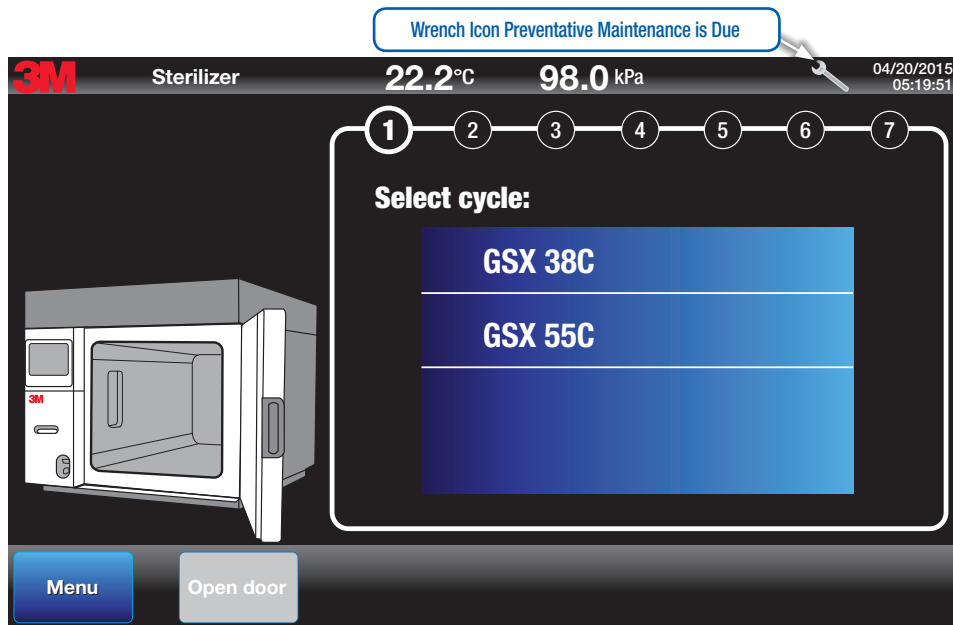

Figure 94.
Performing preventative maintenance, at scheduled intervals, is a critical part of ensuring the 3M™ Steri-Vac™ Sterilizer/Aerator GSX Series continues to function properly. Complete maintenance at routine scheduled intervals of a maximum of every six (6) months. A wrench icon will appear on the display screen when maintenance is due (Figure 94). There are no user-serviceable parts; use only 3M Health Care service personnel or authorized 3M service personnel for maintenance.